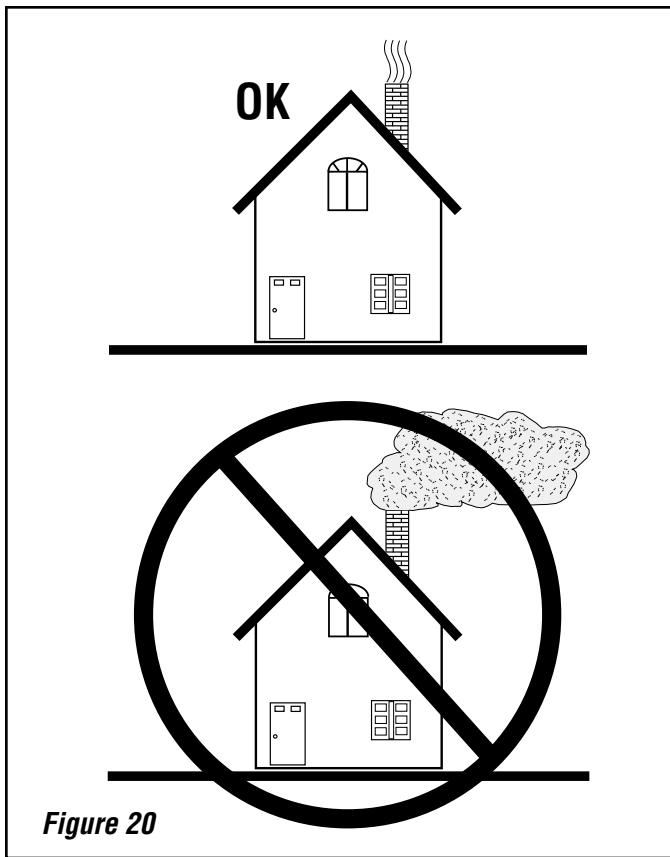

Figure 20
7. For best results, use smaller pieces of wood and light the fire from the top of the kindling pile to get the appliance temperature very high before loading larger wood for sustained burns. If necessary, crack the door to allow ignition of the fuel charge. Now you can add larger pieces of wood and after several minutes of high burn, set the left control for the desired heat output. Check the exhaust in about 15 to 20 minutes (*see Figure 20*). Large amounts of smoke indicate an improper burn setting (either too high or too low). Adjust and recheck in 5 to 10 minutes.
6. Go outside and check your chimney. More than a very small amount of smoke indicates wasted heat, creosote build up and pollution (*see Figure 20*).